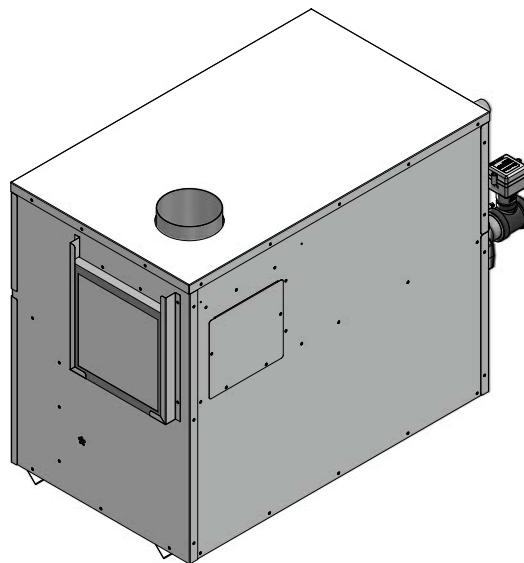

Figure 1-7 Moving Air Filter / Bracket Assembly from Rear of Unit to Side
3. Move the filter/bracket assembly from the rear of unit to the side opening (see FIG. 1-7).